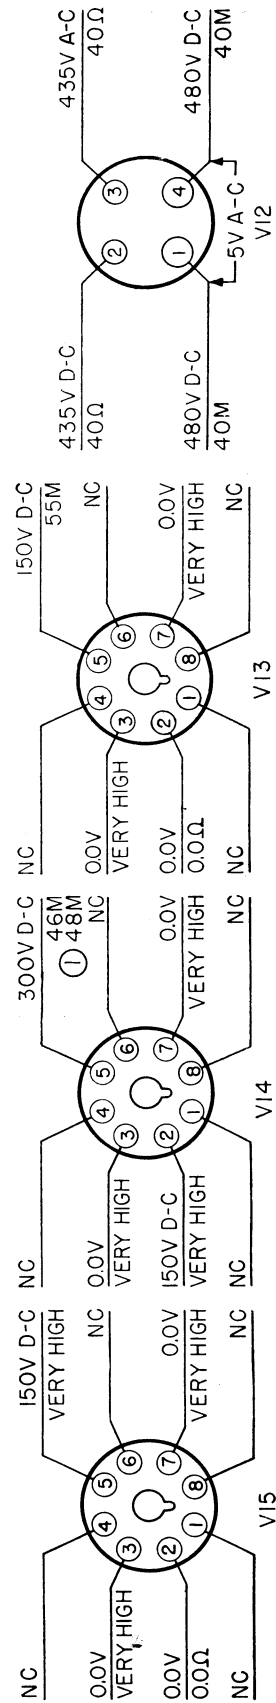

Figure 32. Radio Transmitter BC-610-(*) r-f power supply stage, schematic wiring diagram.
29. R-F Power Supply Stage (fig. 32)